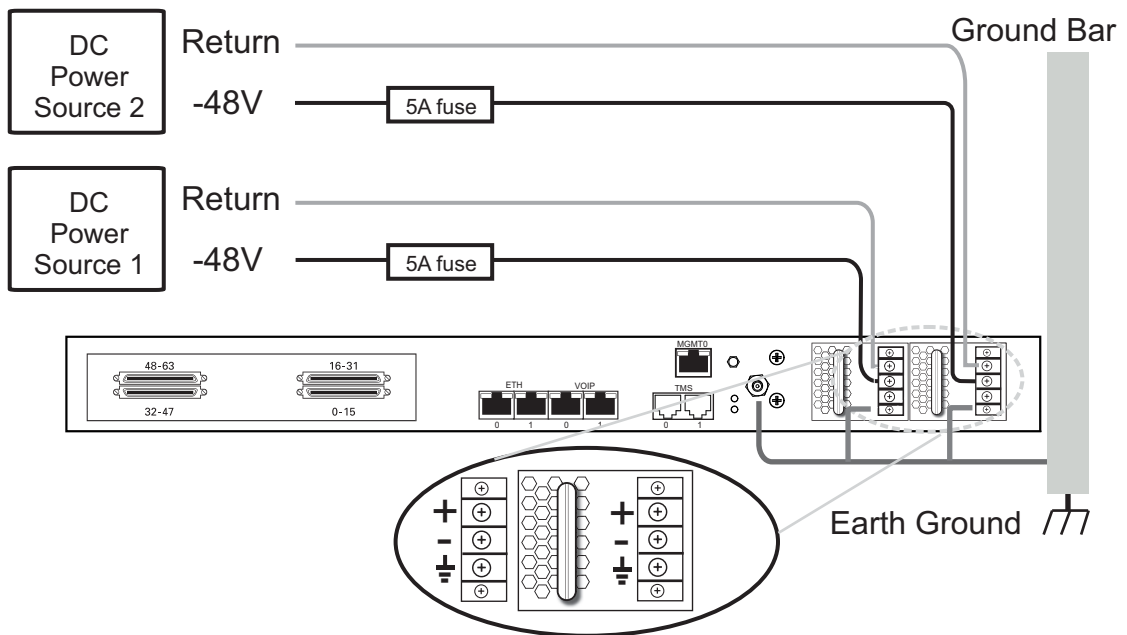

Figure 2.9 3200 Series Gateway DC Wiring Diagram
1. Connect one wire from the positive terminal of the 3200 series gateway to the return side of DC power source one, as shown in Figure 2.9 on page 24.